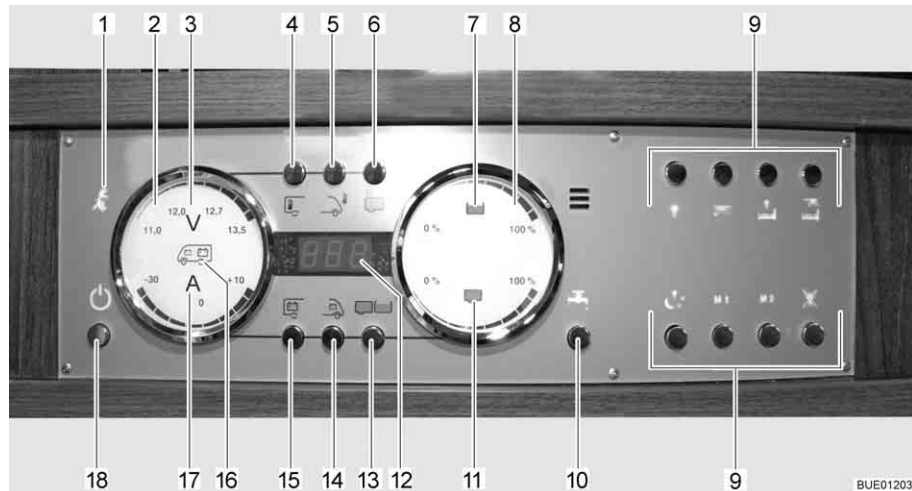

Fig. 134 Panel LT 510
The 230 V indicator lamp (Fig. 134,1) illuminates whenever line voltage is available at the transformer/rectifier input.
The 12 V main switch (Fig. 134,18) switches the panel and the 12 V power supply of the living area on and off.
- Briefly press the 12 V power supply button (Fig. 134,18). The 12 V living area power supply is switched on. The "12 V" indicator lights up.
- ▷ If, after switching on, the "11.0" LED of the volt indicator and the "V" volt symbol (Fig. 134,3) in the batteries gauge (Fig. 134,2) flash, the voltage of the living area battery is too low. Charge battery.
- ▷ If, after switching on, the "12 V" indicator and the "V" volt symbol (Fig. 134,3) flash three times, battery separation is activated. Deactivate battery separation.
- Briefly press the 12 V power supply button (Fig. 134,18). The 12 V living area power supply is switched off. The "12 V power supply" indicator goes out.
- Press button for living area battery (Fig. 134,15) and hold it down for approx. 10 seconds. The "V" volt symbol (Fig. 134,3) and the "12 V" indicator flash three times. The living area battery is disconnected from the 12 V power supply.
- Press the 12 V power supply button (Fig. 134,18) and hold it down for approx. 5 seconds. The "V" volt symbol (Fig. 134,3) and the "12 V" indicator flash three times. The living area battery is connected to the 12 V power supply. The indicator lights up after approx. 5 seconds.
- Press button for living area battery (Fig. 134,15). The "V" volt symbol (Fig. 134,3) lights up. The "A" ampere symbol (Fig. 134,17) lights up as either white or red depending on whether it is charging or discharging. The battery voltage and electricity of the living area battery are displayed via the LEDs in the gauge.
- Press button for starter battery (Fig. 134,14). The "V" volt symbol (Fig. 134,3) lights up. The battery voltage of the starter battery is displayed using the LEDs in the gauge.
- Press tanks button (Fig. 134,13). The water tank (Fig. 134,7) and waste water tank (Fig. 134,11) symbols light up. The fill levels of the water tank (upper scale) and of the waste water tank (lower scale) are indicated using the LEDs in the gauge.
Tank alarm The water tank symbol (Fig. 134,7) or waste water tank symbol (Fig. 134,11) flashes when the water tank is empty or the waste water tank is full.
The internal and external temperatures can be indicated using the digital display (Fig. 134,12).
Displays: ■ Press the button for the internal temperature (Fig. 134,4). The internal temperature is displayed.
■ Press external temperature button (Fig. 134,5). The external temperature is displayed.
The tank heater can be turned on and off using the tank heater button (Fig. 134,6).
Switching on: ■ Press the tank heater button (Fig. 134,6). The tank heater symbol lights up.